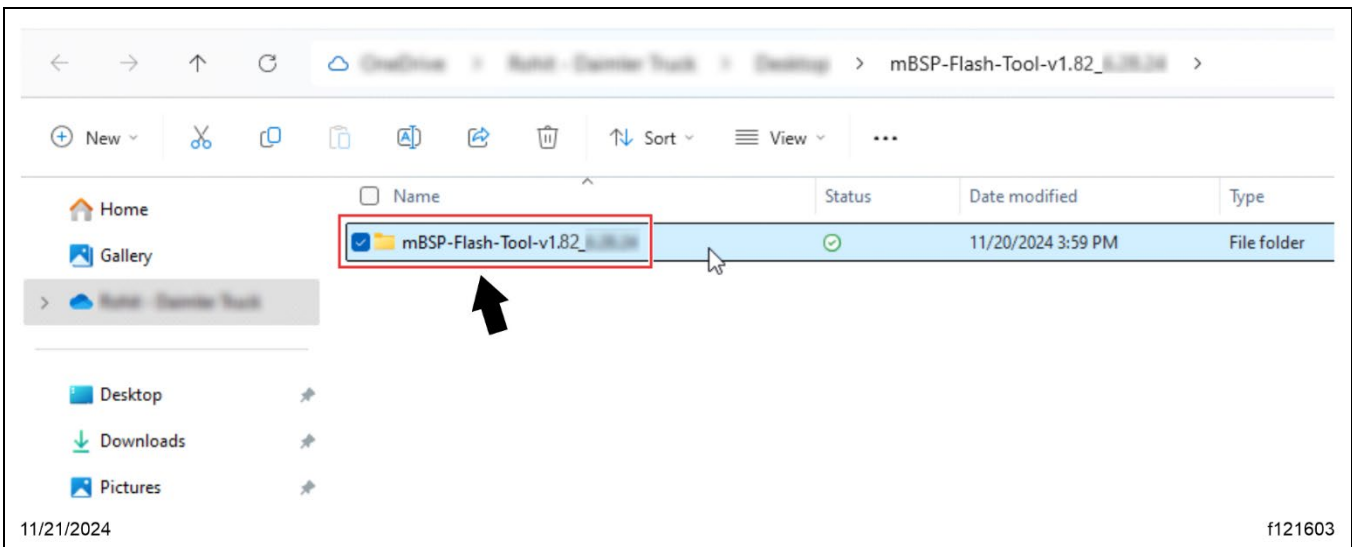

Fig. 27, Extracted Folder
6.3. A new File Explorer window opens. Double-click to open the 'mBSP-Flash-Tool-v1.85' folder. See Fig. 27